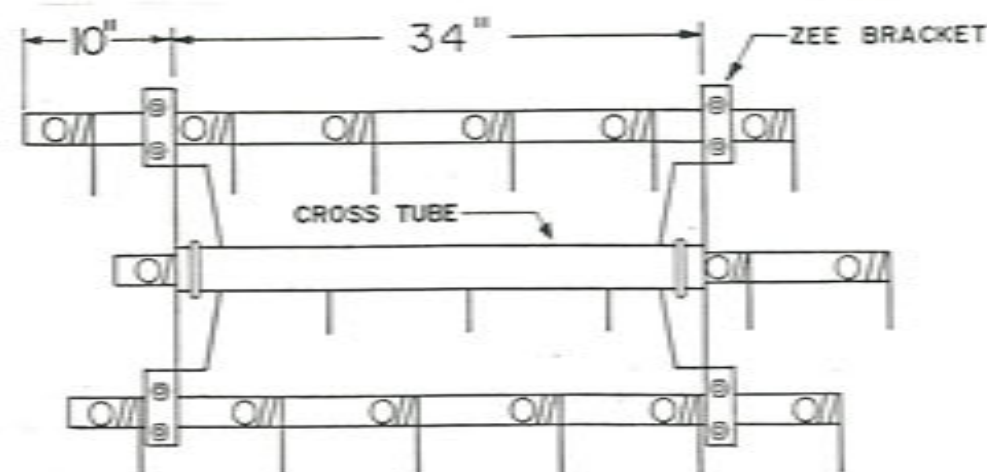

FIGURE 1. Zee Bracket Mount location for 4 1/2 Ft. Coil Tine Harrow Section.
STEP 3 Install the zee bracket mounts (Page No. 8) to the harrow section frame members (Ref. No. 2) with the pipe clamps (Ref. No. 6). Refer to Figure 1 & 2 for the proper location of the zee bracket mounts on 4 1/2 ft. or 6 ft. harrow sections. Install the cross tube (Ref. No. 1) to the top of the zee bracket mounts with 1/2" "U" bolts.